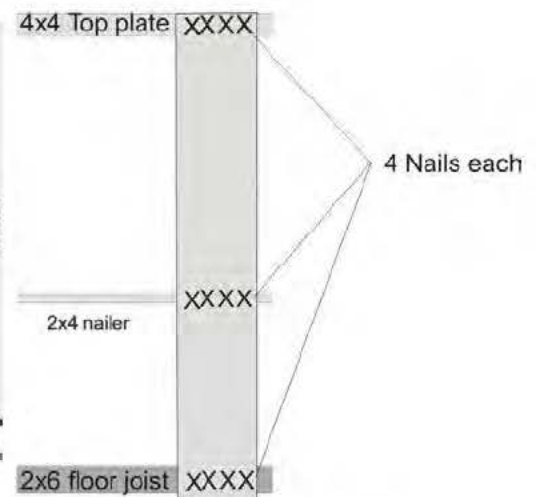

Figure 3
Step 3. Use four nails at each floor joist, nailer and top plate. 12 nails for each 1x12 siding board. See Figure 3.